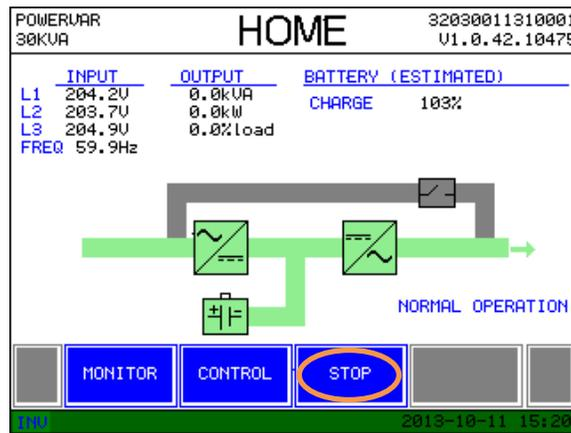
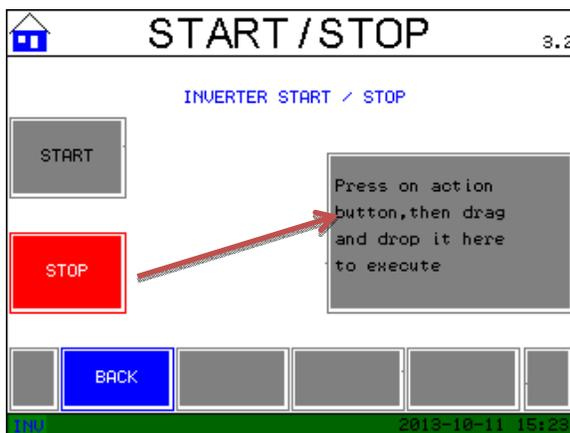
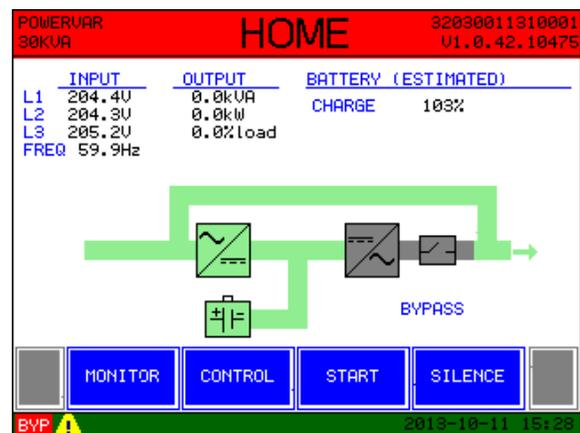

Fig. 4-22
Fig. 4-23
Fig. 4-24
Step 1: Transfer the UPS to Static Bypass mode by pressing the “stop” button at the bottom of the “Home” screen (Fig. 4-22). Drag and drop the red “stop” action square to the gray square at the right (Fig. 4-23). The inverter will now be offline. An alarm will alert the user to the fact the UPS is now in bypass mode and the critical load is no longer battery protected (Fig. 4-24 & 4-25).